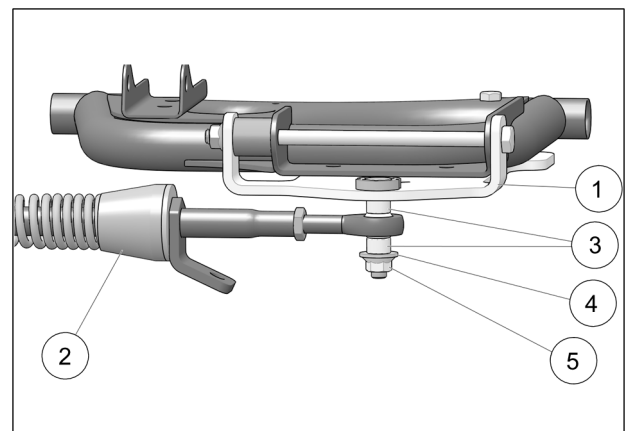

Fig. 11
10. Attach stabilizing rod (2) to anchor bracket (1), using the two spacer bushings (3), flat washer (4) and nut (5). Torque to 70 N•m [52 lb•ft]. See Fig. 11